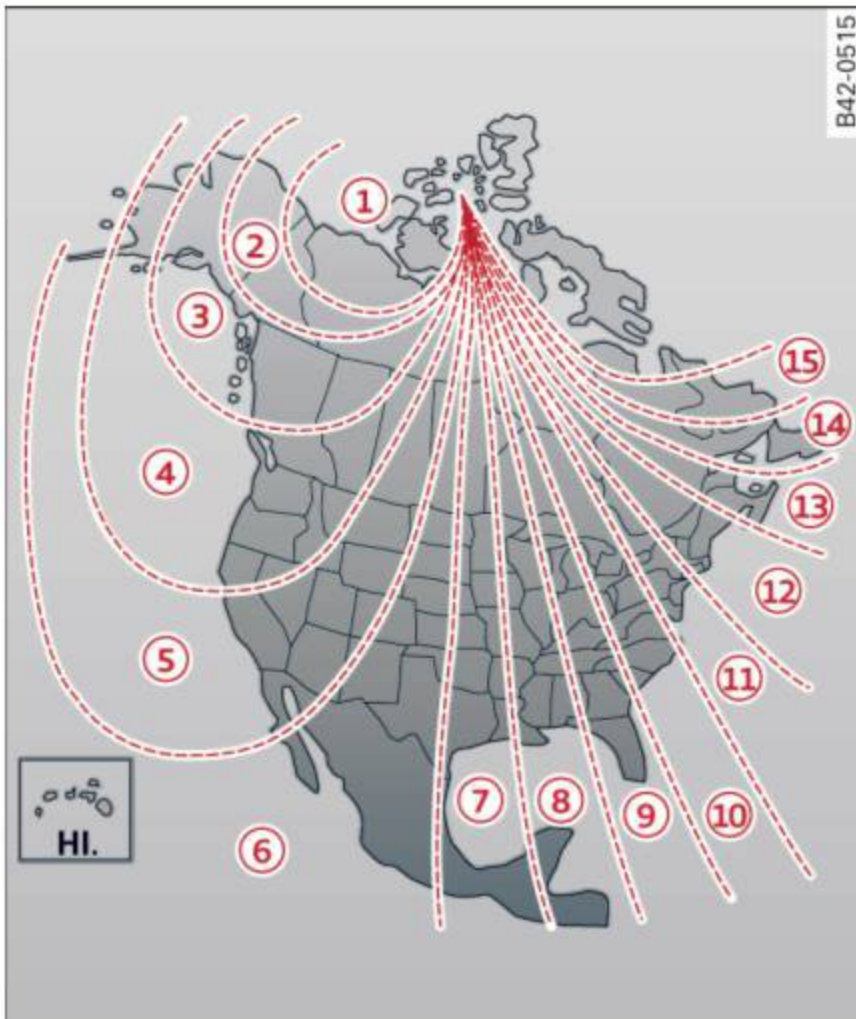

Fig. 50 North America: magnetic deflection zone boundaries
- ▶ Press and hold the button **A** ⇨ *fig. 50* until the number of the magnetic zone appears in the rearview mirror.